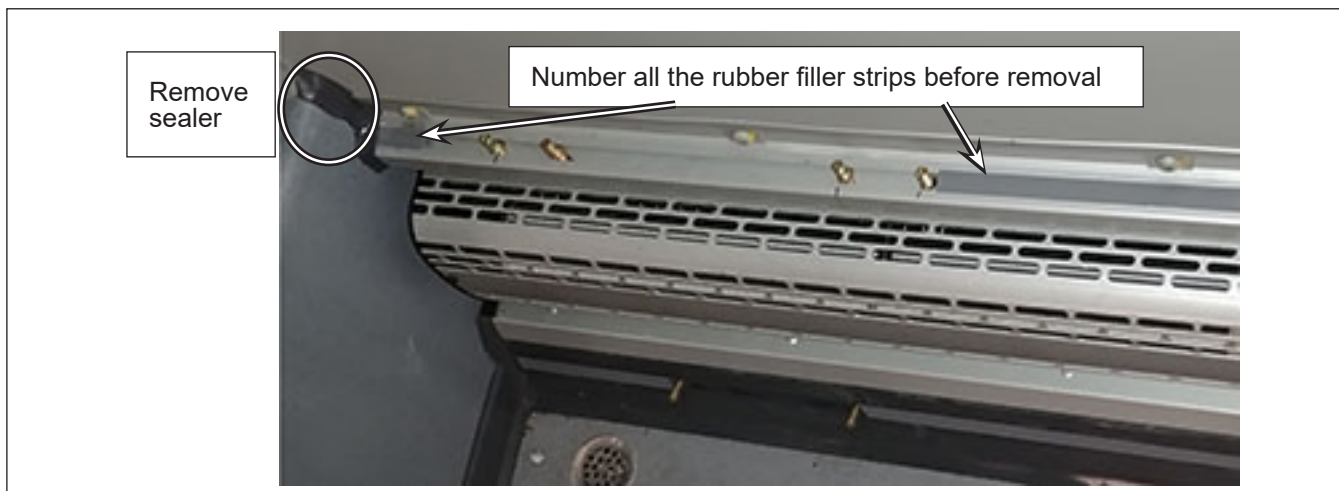

Figure 11 - Typical Anchor Rail, Rubber Filler Strips and Sealer
- f. Cut and remove the sealer installed at each end of the rail. See Figure 11.
- g. Number the rubber filler strips installed on the upper anchor rail before removing them. Remove the numbered rubber filler strips. Retain all the rubber filler strips. See Figure 11.